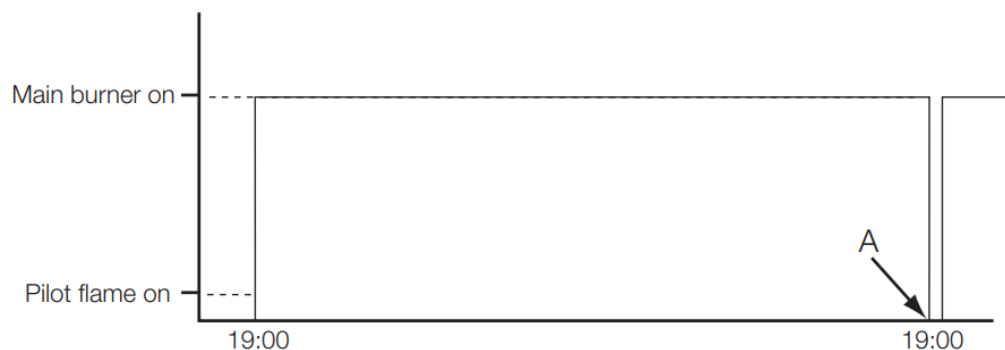

Figure 23: Main burner continuously on for 24 hours
3. The pilot flame is on, but the main burner has been switched off six hours ago (see Figure 23)